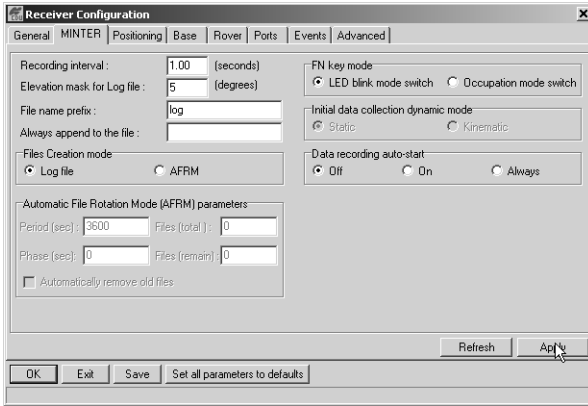

Figure 2-23. Receiver Configuration – MINTER Tab
3. Click the **MINTER** tab, set the following parameters and click **Apply** (Figure 2-23 on page 2-25). See the following pages for descriptions of these parameters.